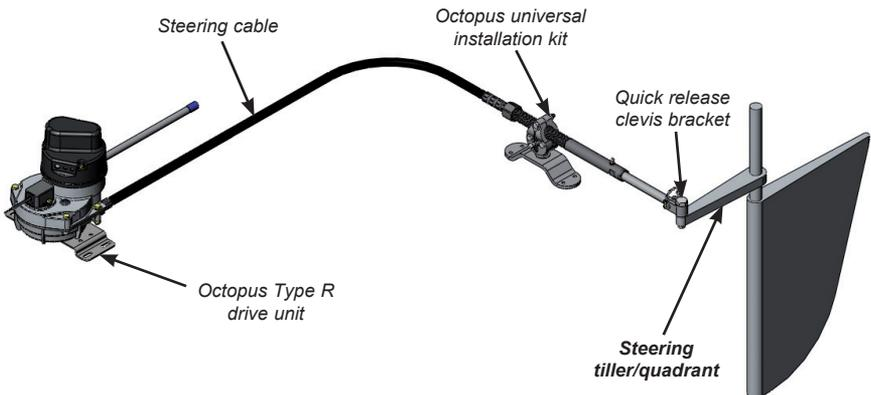

Fig B38 - Inboard installation configuration
- iii) Position the connection kit so that the primary and secondary steering cable nuts are aligned (Fig B38). Tighten the nuts on both clamp assemblies and torque to 100in-lb (11nm).